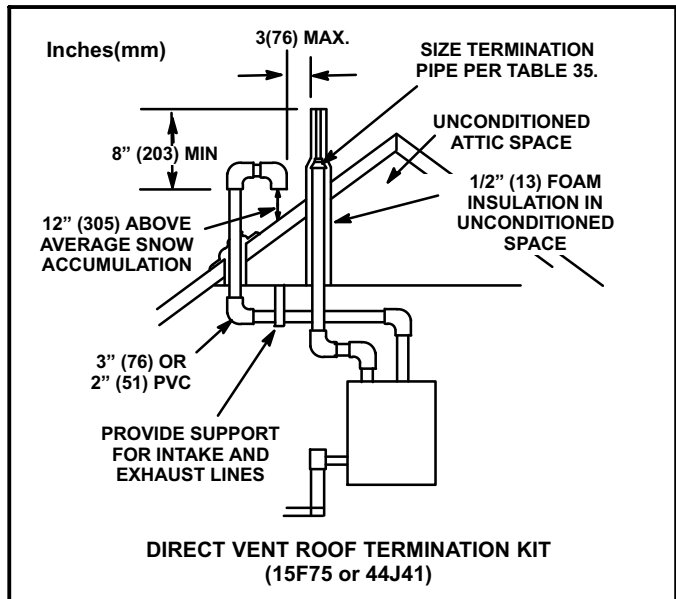

FIGURE 29
Intake and exhaust pipes may be routed either horizontally through an outside wall or vertically through the roof. In attic or closet installations, vertical termination through the roof is preferred. Figures 29 through 37 show typical terminations.
4. On roof terminations, the intake piping should terminate straight down using two 90° elbows (See figure 29).